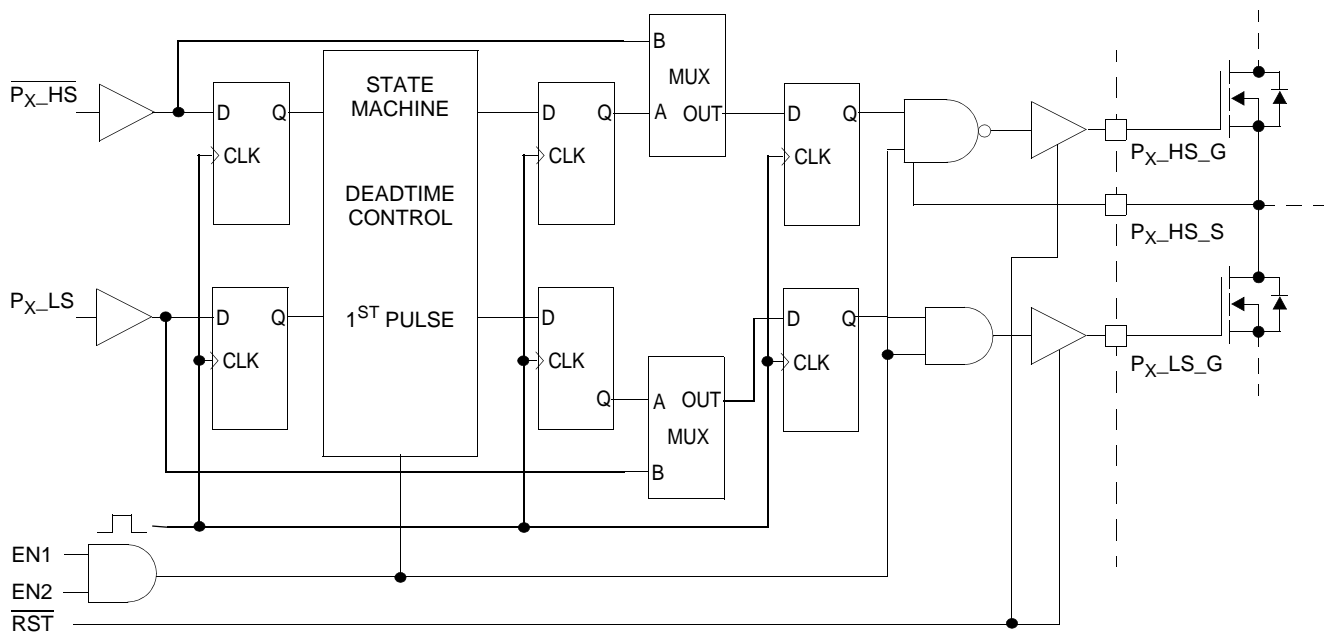

Figure 6. Deadtime Control Delays
35. These delays include all logic delays except deadtime. All internal logic is synchronous with the internal clock. The total delay includes one clock period for state machine decision block, an additional clock period for FULLON mux logic, input synchronization time and output driver propagation delay. Subtract one clock period for operation in FULLON mode which bypasses the state machine decision block. Synchronization time accounts for up to one clock period of variation. See Figure 6.